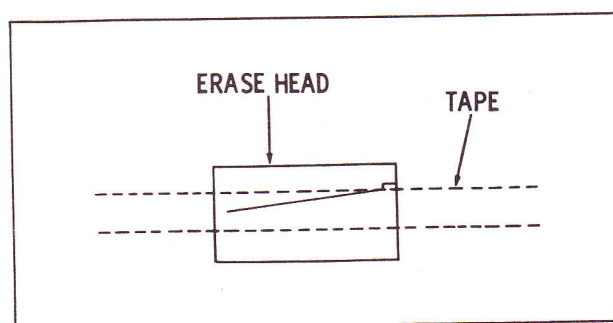

Fig. 3. Erase head tape path.
(junction of long diagonal slot and short vertical slot). See Figure 3. To adjust the level of the tape, loosen set screw (44) and rotate tape guide post (45) to move tape up or down. See Exploded View.